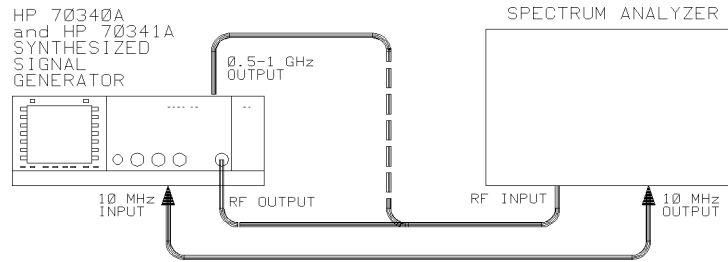

Figure 1-1. ALC Troubleshooting Test Setup 1
- a. If the HP 70341A front panel ACT light is ON, continue troubleshooting with the next numbered step (3).
3. Attach a spectrum analyzer to the Signal Generator front panel RF OUTPUT as shown in Figure 1-1 and attempt to measure the signal.
- a. If the frequency of the signal changes as expected, continue troubleshooting with the next numbered step (5).
- c. Connect the spectrum analyzer to the HP 70340A 0.5 to 1 GHz OUTPUT rear panel as shown in Figure 1-1 (dotted line).